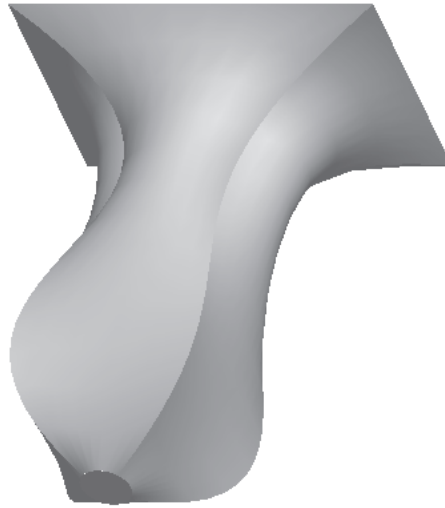

Figure 7-114 Smooth blend feature
- f. Redefine the model to change the straight blend to a smooth blend, refer to Figure 7-114.
7. Choose the **OK** button from the **PROTRUSION** dialog box; the smooth blend is created, as shown in Figure 7-114.